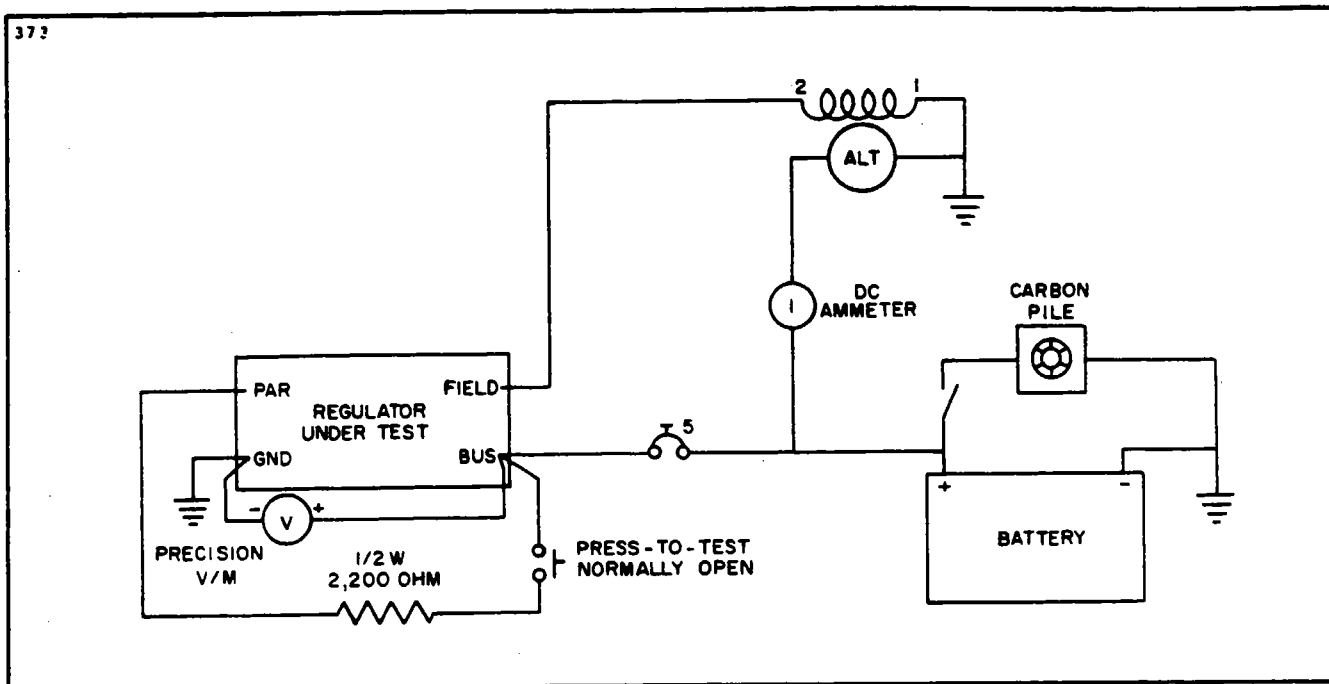

Figure 11-13a. Testing Regulator (Paralleling System)
a. The procedure for testing the regulator, whether on the airplane or on the test bench, remains the same. Connect the test meters and regulator wiring as shown in Figure 11-13a.
d. With the connections made as shown in Figure 11-13a, start the engine and adjust speed to obtain alternator RPM of 3,000 to 4,000 (714 to 952 prop RPM). Adjust the carbon pile or accessory load to establish the 10 to 15 ampere load value. Note that the battery charge current is indicated by the ammeter. Therefore, the current value may change downward at the beginning of a test run. This will be especially true if the battery was used for engine starting.